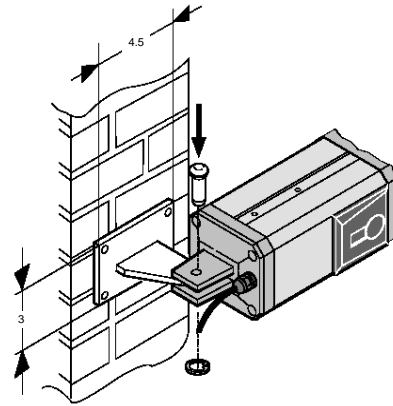

Figure 6
2. Install the actuator onto the rear bracket with the hardware supplied (fig. 6).